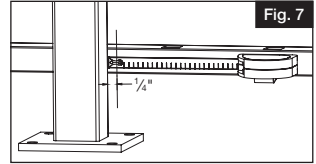

Fig. 7
- b. Measure $\frac{1}{4}$ " from the posts towards the center of the section to allow for bracket clearance (Fig. 7).